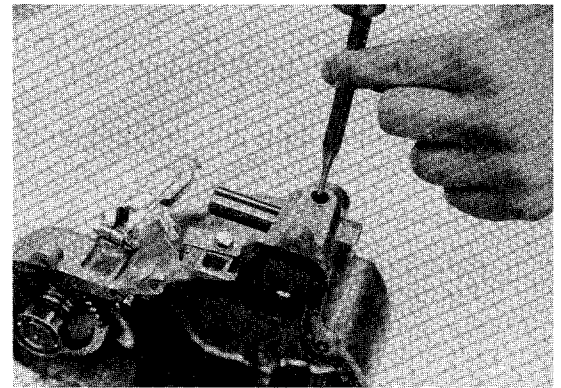

Figure 10-12
2. Remove air breather (29) and clean.
3. Remove roll pin (66) through air breather hole using a 5/32 inch punch (Figure 10-12).